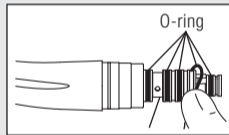

Fig. 46
- When inserting new O-rings, make sure they are inserted in the correct grooves (Fig. 46).